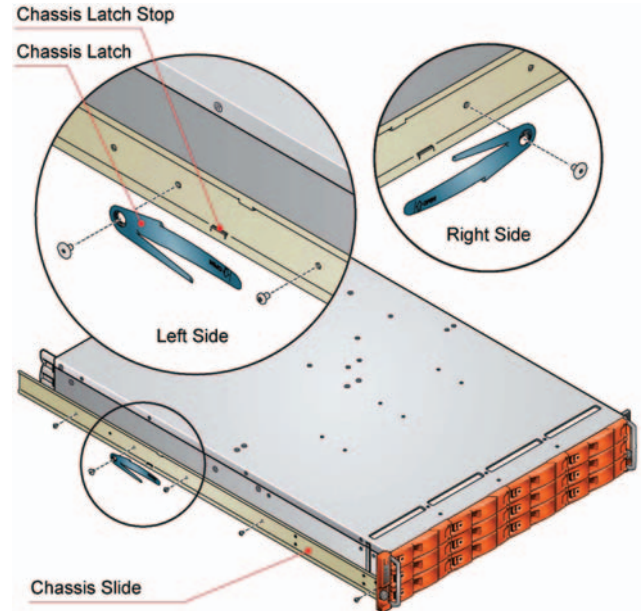

Figure 2: Securing Chassis Slides to Enclosure
1. Remove the Rack Mounting Rail Kit from the Accessory Box and check for damage. Attach the left and right chassis slides to the enclosure sides using six M3x4 button head screws. Three screws each side see *Figure 2* for locations.
2. Attach left and right chassis slides to the enclosure sides using 8 M3 x 4 buttonhead screws (see *Figure 2*).
3. Assemble the left and right chassis latches using the special chassis latch screws. Ensure the latch is orientated as shown in *Figure 2*, with the spring arm located against its stop. On the right hand side this is at the top, on the left at the bottom.